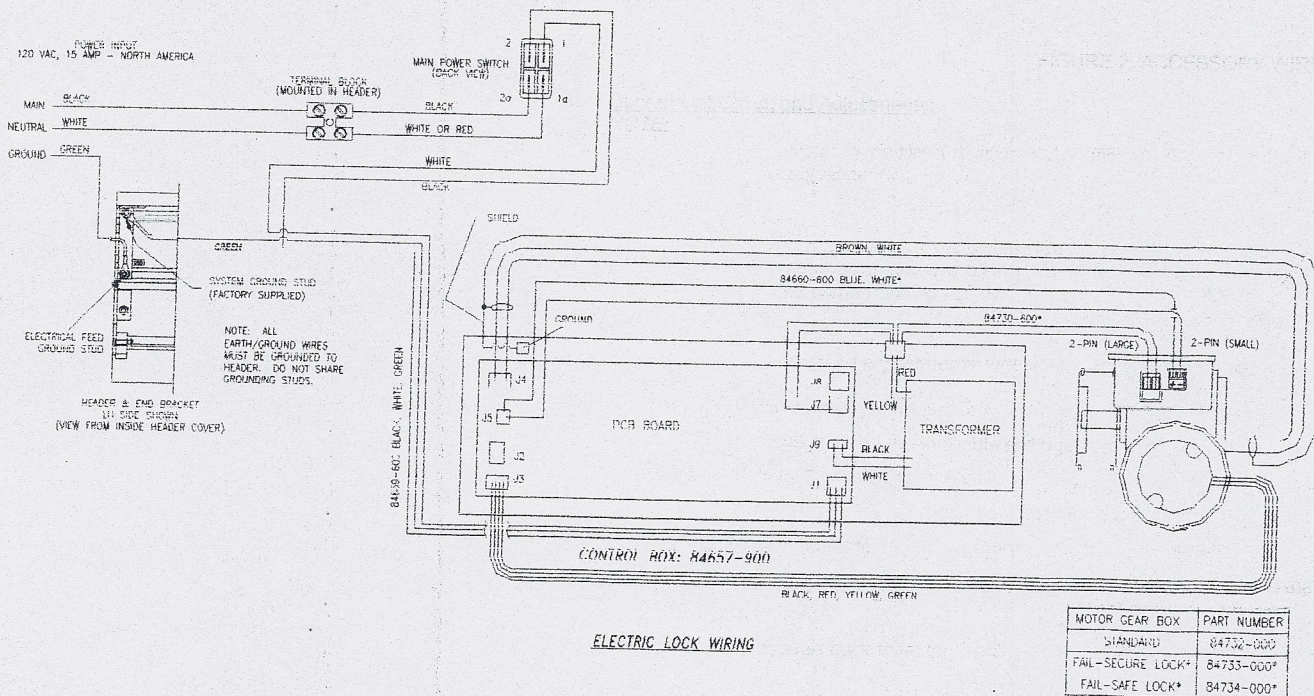
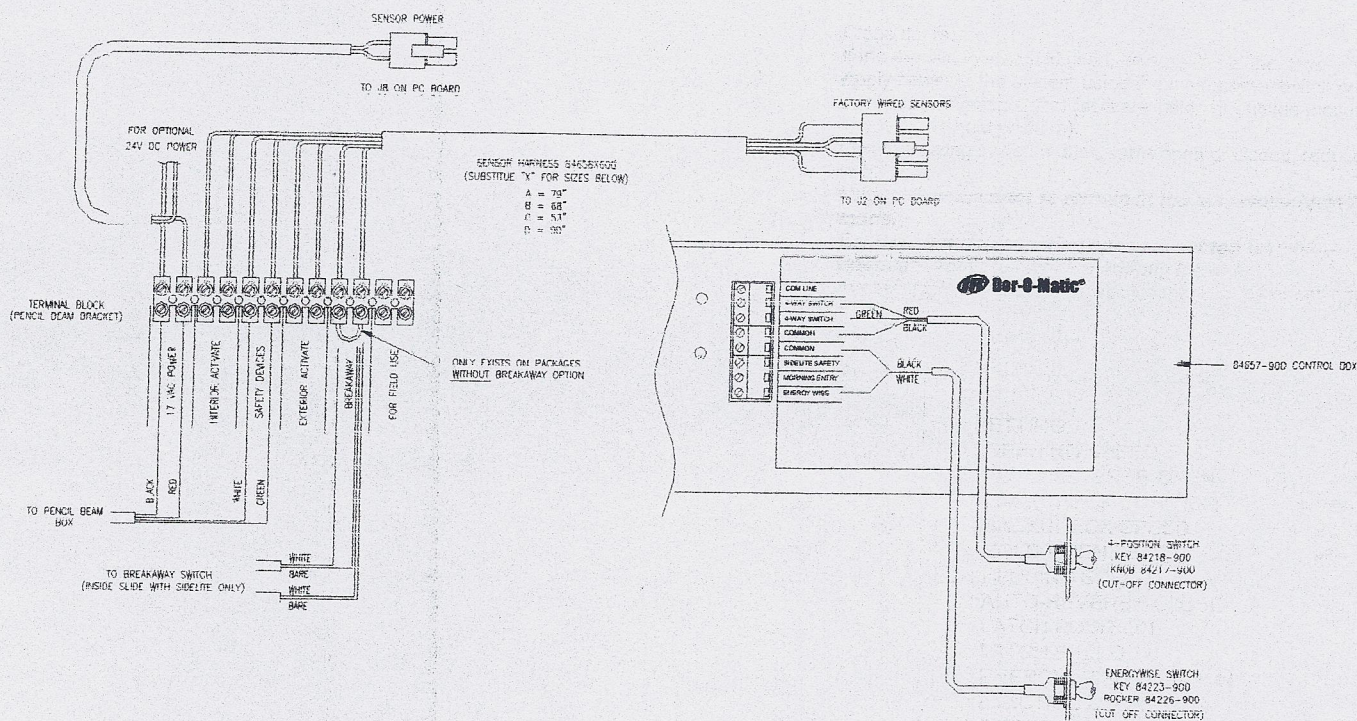

FIGURE 1: POWER WIRING DIAGRAM
FIGURE 2: ACCESSORY WIRING DIAGRAM
The Series 96000 header comes from the factory "pre-wired" to minimize installation time at the job site. Connect main power to the terminal block at the end of the header (Figure 1). Connect accessories to the terminal block on the safety beam bracket or control box as needed (Figure 2). Refer to the instruction manual of the accessory for complete wiring details.
6. **Morning Entry (Optional):** The morning entry feature allows outside entry using a keyswitch when the 4-way switch is in the OFF position. The morning entry switch connects to the controller terminal block between COMMON and MORNING ENTRY (see Figure 2).
7. **Sidelite Safety (Optional):** The sidelite safety feature slows the opening speed of the door when an obstruction is sensed in the sidelite area. The sidelite safety sensor contacts connect to the controller terminal block between COMMON and SIDELITE SAFETY (see Figure 2).